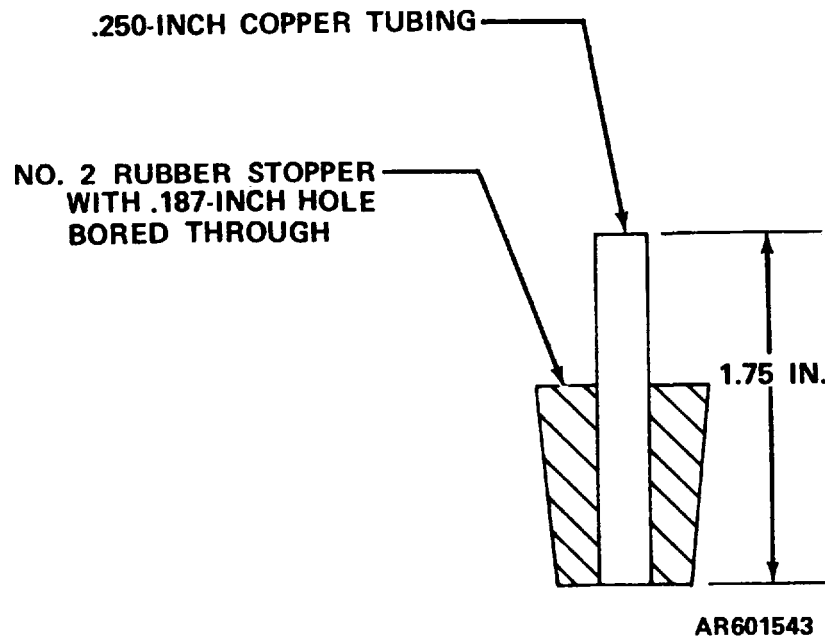

Figure 1. Fabrication instructions for connector (B3).
**5. Accessories Required.** The accessories listed in table 3 are issued as indicated in paragraph 4 above except for one which is fabricated as shown in figure 1. All are to be used in this calibration procedure. When necessary, the items other than the one fabricated may be substituted by equivalent items.